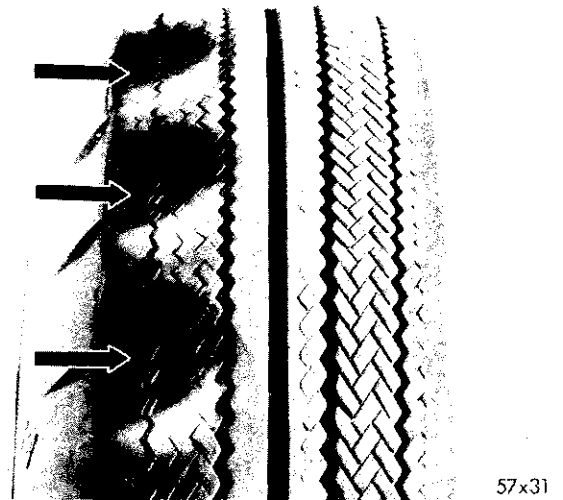

Fig. 5—Spotty Wear
6. UNIFORM SPOTTY WEAR (Fig. 5)